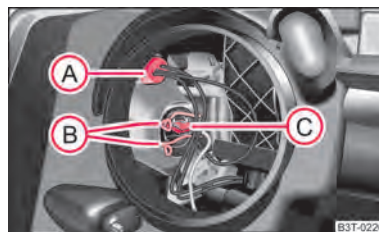

Fig. 204 Removing the bulbs for the parking and main beam light
- Remove the socket (A) ⇒ fig. 204.
- Press the sprung wire clamps (B) ⇒ fig. 204 together and hang them to the side.
- Remove the socket (C) ⇒ fig. 204.